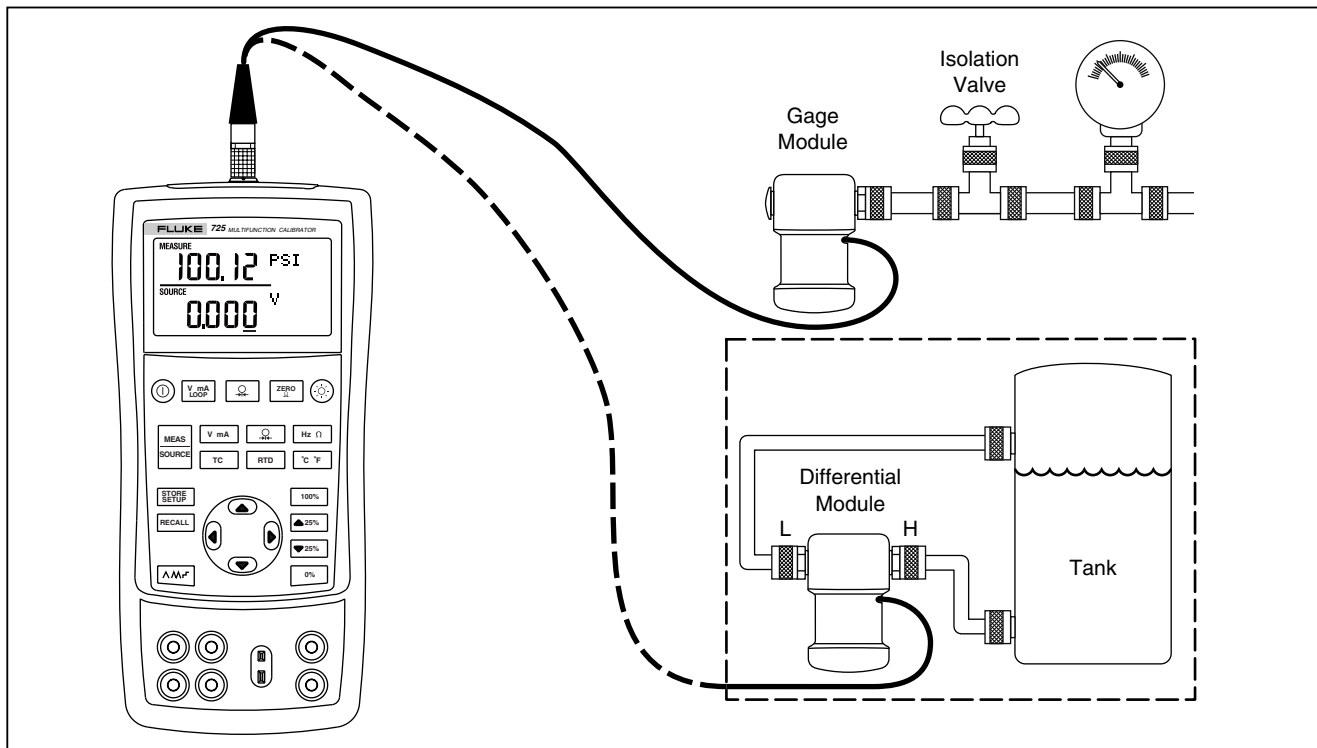

Figure 13. Connections for Measuring Pressure
1. Connect a pressure module to the calibrator as shown in Figure 13. The threads on the pressure modules accept standard 1/4 NPT pipe fittings. Use the supplied 1/4 NPT to 1/4 ISO adapter if necessary.